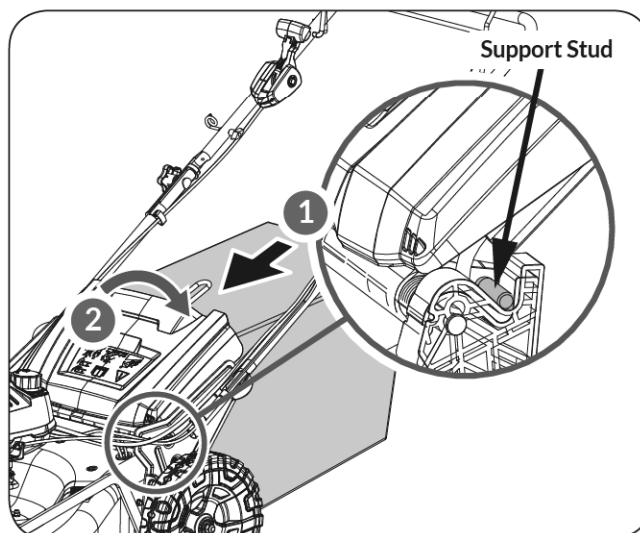

Figure 6
3. Slide the support studs at the front of the grass catcher frame into the V-shaped groove of the left and right handle brackets. Let go of the rear discharge door so that it rests on the grass catcher. (See **Figure 6, illustration 1&2**)